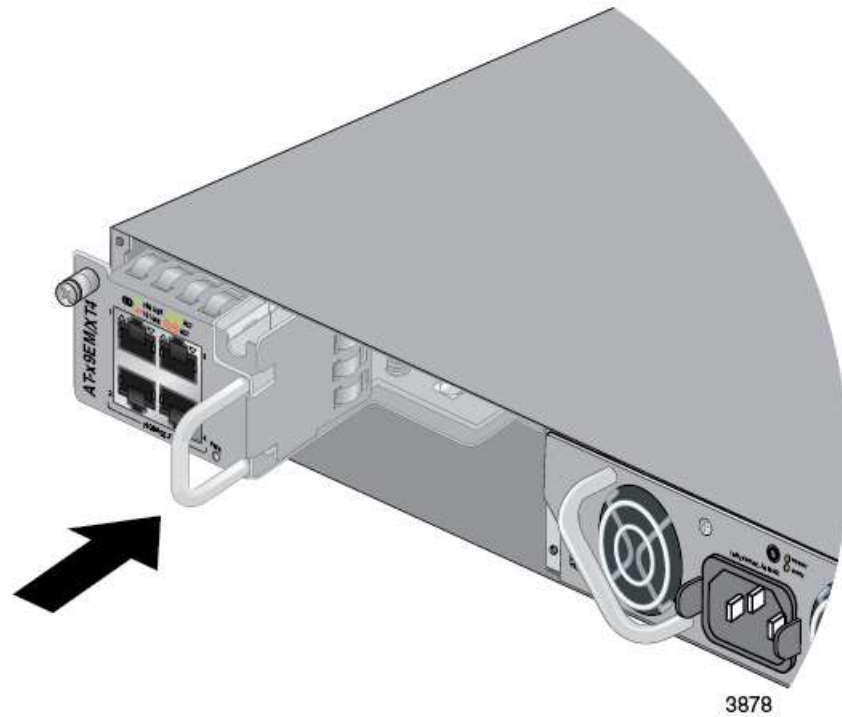

Figure 34. Seating the AT-x9EM/XT4 Card in the Switch
9. When you feel the card make contact with the connector inside the switch, gently press on the handle to seat it on the connector. Refer to Figure 34 on page 83.